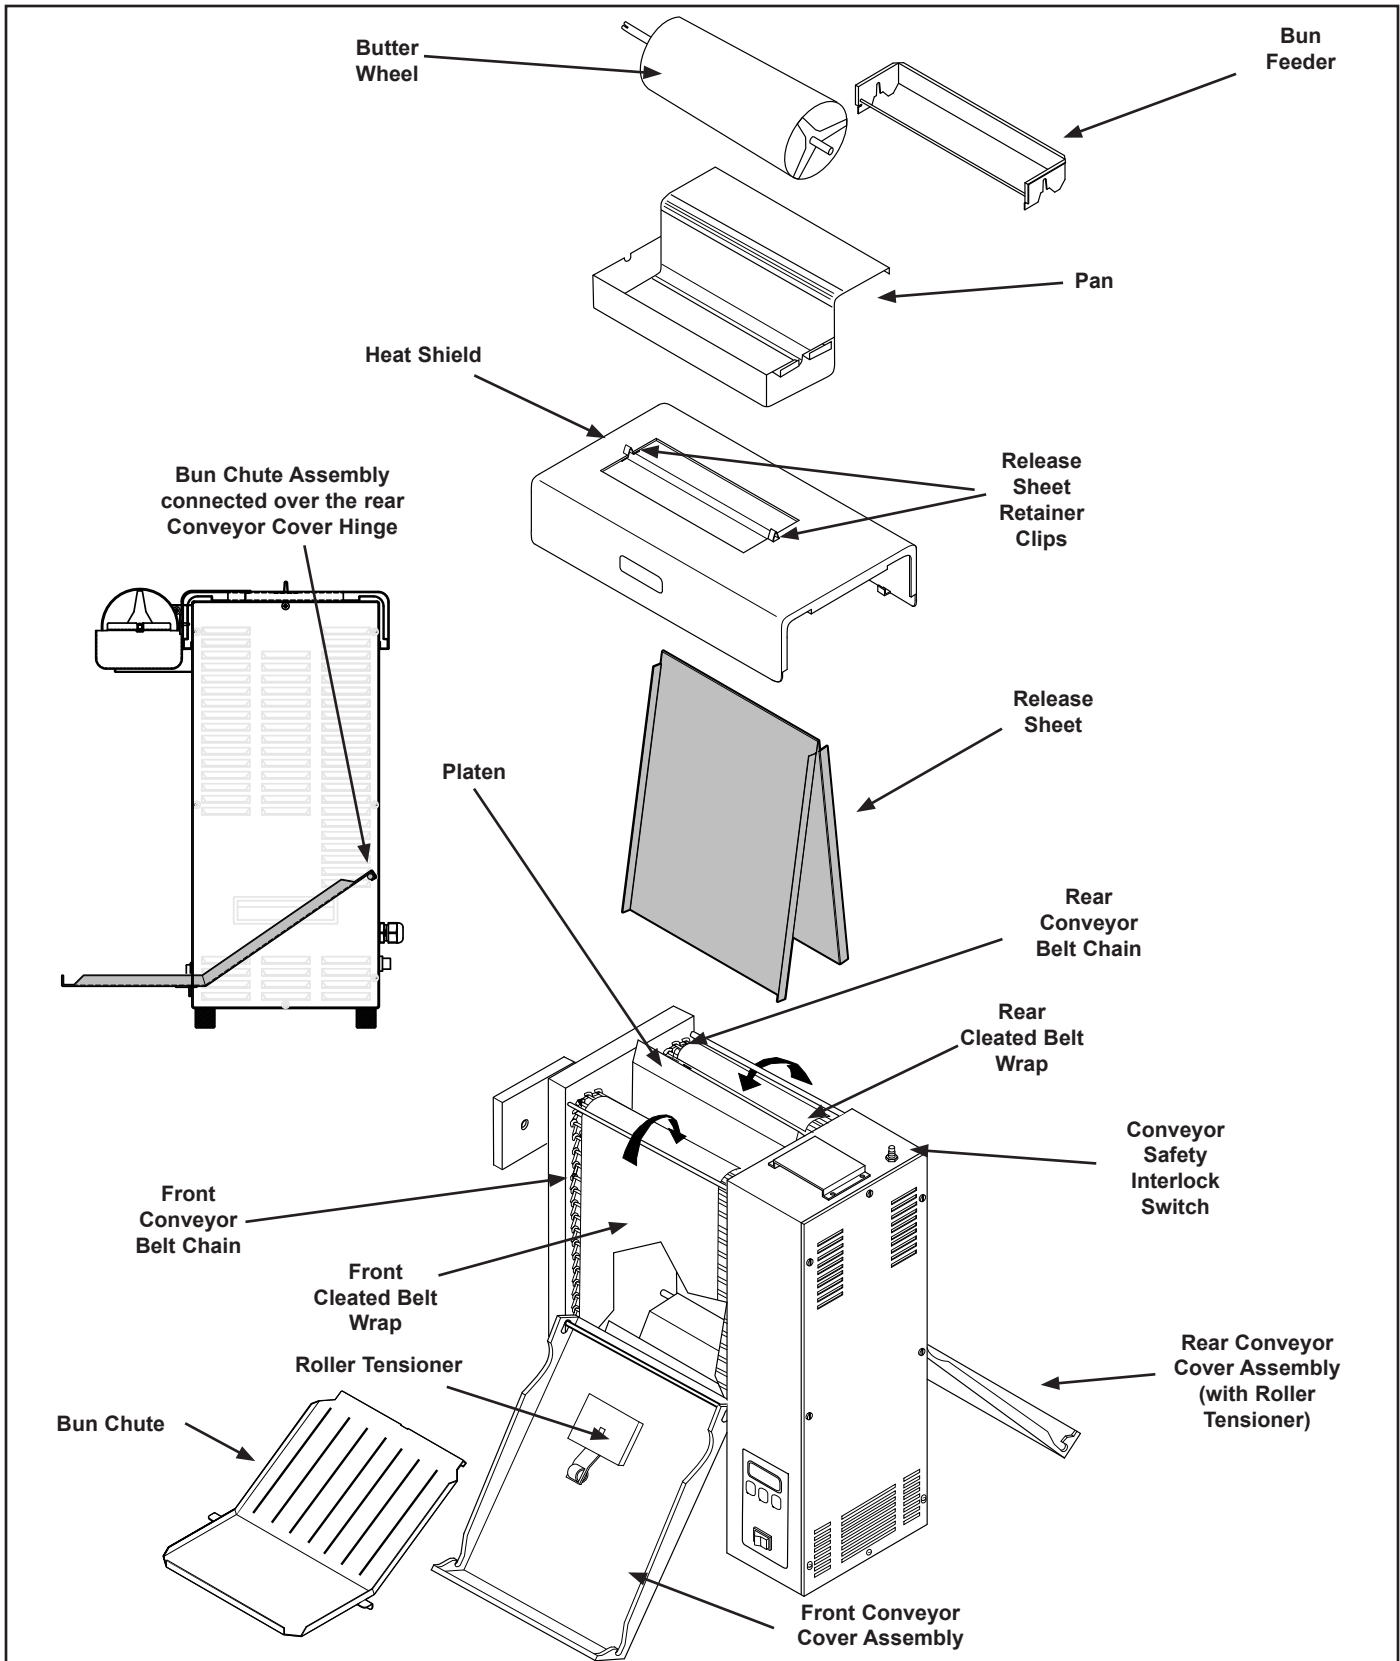

Figure 2. VCT-2000 Components
- Bun Chute (Figure 2)
- Butter Wheel and Pan (Figure 2)
- Two Release Sheets (Figure 2)
NOTE: The factory has pre-installed a Release Sheet over the Platen (Figure 2). Verify that it is properly in place before proceeding.
2. Install the Pan over the front edge of the Heat Shield and place the Butter Roller in Pan and engage into gear case (Figure 2).
IMPORTANT: Make sure Heat Shield assembly is activating the Conveyor Interlock Switch (Figure 2). The conveyors will not rotate unless the Heat Shield is in place and Conveyor Interlock Switch is activated.
NOTE: The display (Figure 2) flashes "LO" during warm-up. "USE" appears when the toaster is ready for use.
2. Remove the Butter Wheel, Pan, and Heat Shield (Figure 2). Set the Bun Thickness Compression Knobs to 6 & 6.
2. Remove the Bun Feeder, Butter Wheel, Pan, and Heat Shield (Figure 2). Set the Bun Thickness Compression Knobs to 6 & 6.